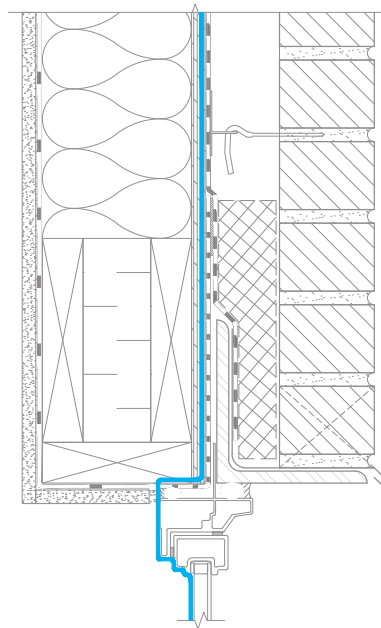

Fig. 8-3 Typical window head detail and wood stud-framed backup wall. The plane of airtightness (i.e., the air control layer) is denoted in blue.
- ✓ Ensure that a continuous line representing the plane of airtightness can be drawn across all wall assemblies, details, and transitions between assemblies. This includes in both plan and section perspectives. Details included within this guide demonstrate this practice; an example is shown in Fig. 8-3.